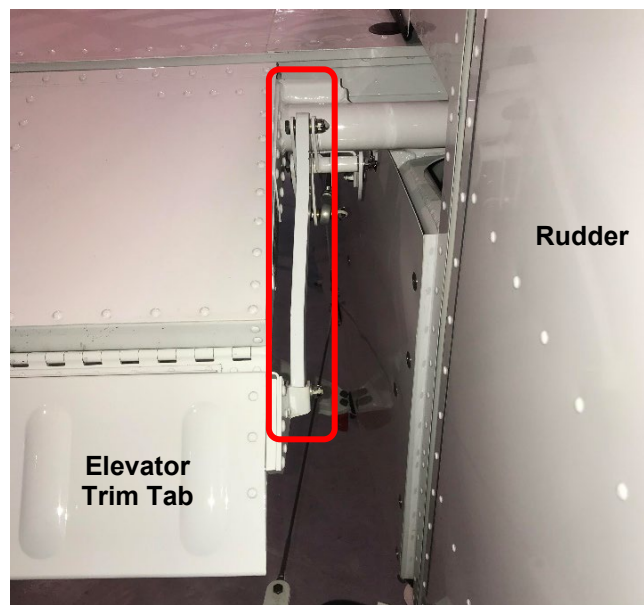

Figure 45-17
- c. Install Lever Assy to reattach Elevator Trim Tab. See Figure 45-17.